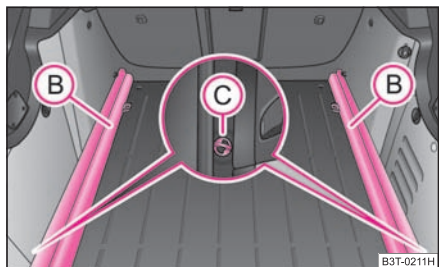

Fig. 81 Luggage compartment: Remove carrier rail
- Unlock the carrier rail (B) by turning the arbor-mounted fixing eyes (C) to the right by approx. 90° → fig. 81.